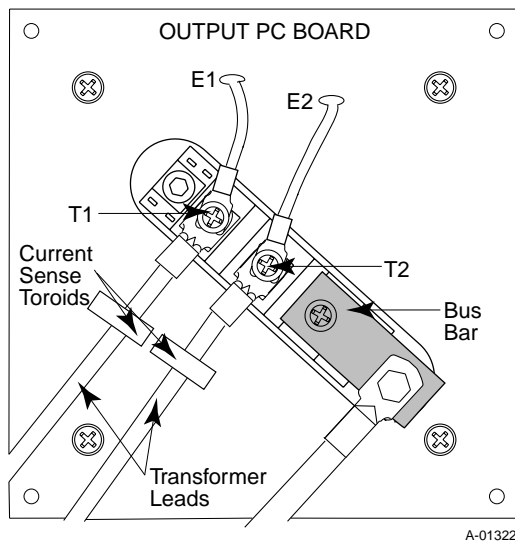
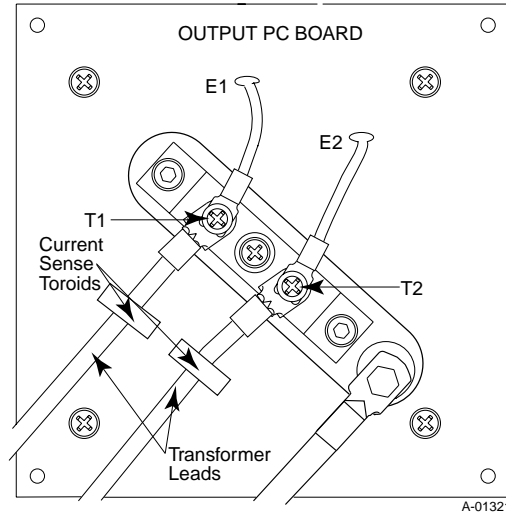

Figure 4-13 Connections for Model "A" Output Diode Bridge Assembly
Figure 4-14 Connections for Model "B" Output Diode Bridge Assembly
3. Note the location of all the cable connections to the Diode Bridge Assembly. Figure 4-13 below indicates the connections for Model "A" and Figure 4-14 shows the connections for Model "B".
10. Reconnect all cable connections as shown in Figure 4-14.